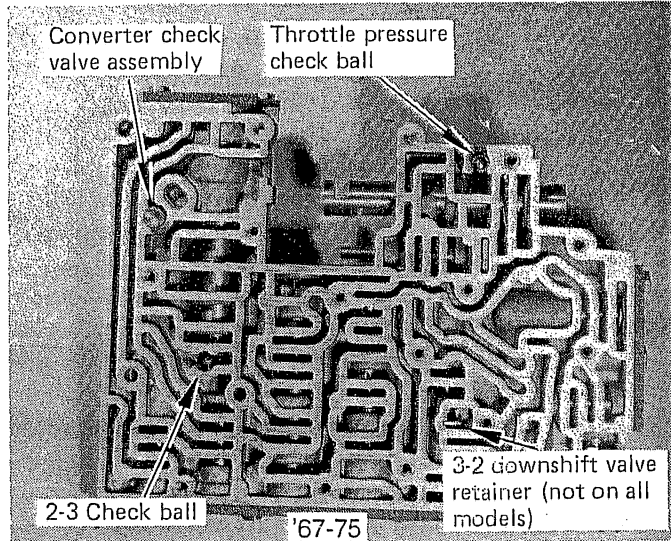
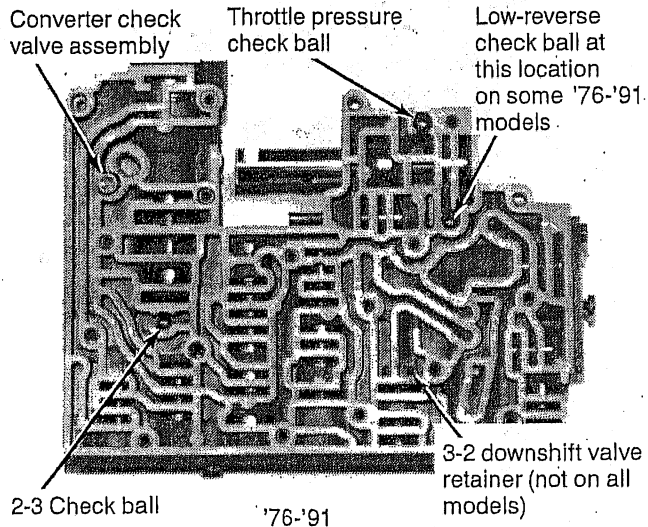

FIGURE 6
FIGURE 6A
This is a small steel valve or ball with a fine pitch spring. (See Fig. 6) Set them aside so they won't be confused. (The check valve may be stuck to the separator plate). Remove the throttle pressure check ball assembly. (See Fig 6 or 6A) This ball uses a coarse pitch spring. Set it aside so it won't be confused. Remove the 2-3 check ball from its pocket. (See Fig. 6) Do not loose the 3-2 downshift valve retainer. Note: Some later models have a low-reverse check ball. (See Fig. 6A) remove and set aside.
STEP 13. Lay casting on bench with passages facing up. Install converter check valve assembly into place. (See Fig. 6) Install throttle pressure check ball assembly into place. Install 3-2 downshift valve retainer into place. Install low-reverse check ball (if equipped).
STEP 17. Install separator plate - transfer plate assembly on to casting. Make sure check valve assemblies are in position (See Fig. 6). Make sure throttle pressure check ball contacts